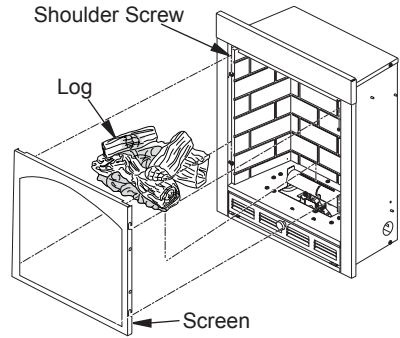

Figure 22 - Installing Log and Screen
1. Remove log packaging material and discard packaging. Gently place log over the burner (see Figure 22). Do not allow log to contact flame. If flame contacts log, soot will be created.